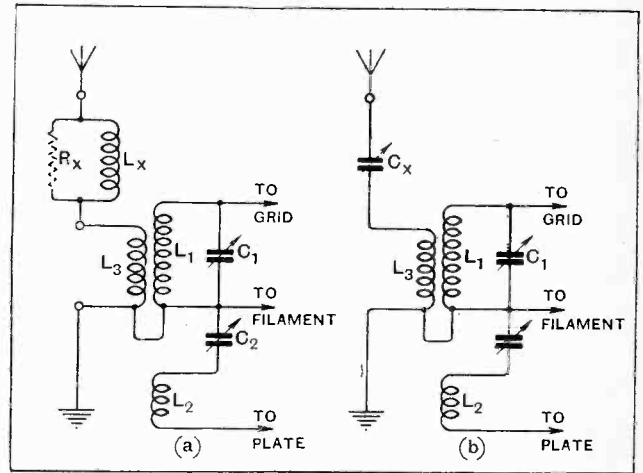

Fig. 4.—(a) Loading inductance L_x and (b) series capacity C_x have been added to obtain curves shown in figures 5, 6 and 7.
below the waveband covered by the tuned grid circuit, or any resonance must be very highly damped. The aerial system consists of aerial and earth and the aerial coupling coil. If the aerial is to resonate at a wavelength above the maximum of the grid circuit, then its inductance or its capacity, or both, must be increased. The total inductance in the aerial circuit is quite small, so that it will probably be more convenient to increase the inductance by inserting a coil L_x in the aerial lead as shown in Fig. 4 (a) rather than to increase the capacity by shunting L_3 with a very large condenser.
While curve (2) for the aerial alone showed a resonance about 40° of the tuning condenser, curve (3) shows a very decided resonance at about 140° , while curve (5) shows a resonance just above 180° , but not sufficiently above to prevent interference with the reaction control. It would appear that about 500 microhenries would be sufficient. When a large inductance is used, sufficient to give resonance well off the scale, as is shown in Fig. 4, then the reaction control becomes uniform again.
Unfortunately, however, as might be expected, the addition of large loading inductances in the aerial circuit will cut down the signal strength quite considerably. This may be minimised by connecting a resistance across the loading inductance, as shown in Fig. 4 (a) by R_x , and a comparatively small coil, such as is used in curve (5) may be used with a damping resistance which will tend to make the reaction control more uniform. However, as will be seen later, this is not the best connection to use on wavelengths above 200 metres, but the curves shown are interesting from the point of view of *short-wave* receiver design, where the aerial naturally resonates (if of normal size) above the waveband it is desired to receive.
The capacity may be reduced by including a series condenser in the aerial lead, C_x , as shown in Fig. 4 (b).